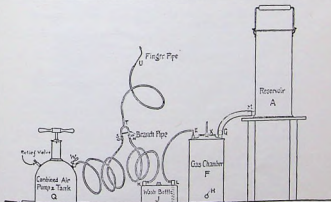

Fig. 37. Hydrogen Gas Outfit
Fig. 37 shows how the apparatus should be set up and connected. The bottom of the reservoir "A" must be higher than the top of the gas chamber (F). Connect the lower outlet